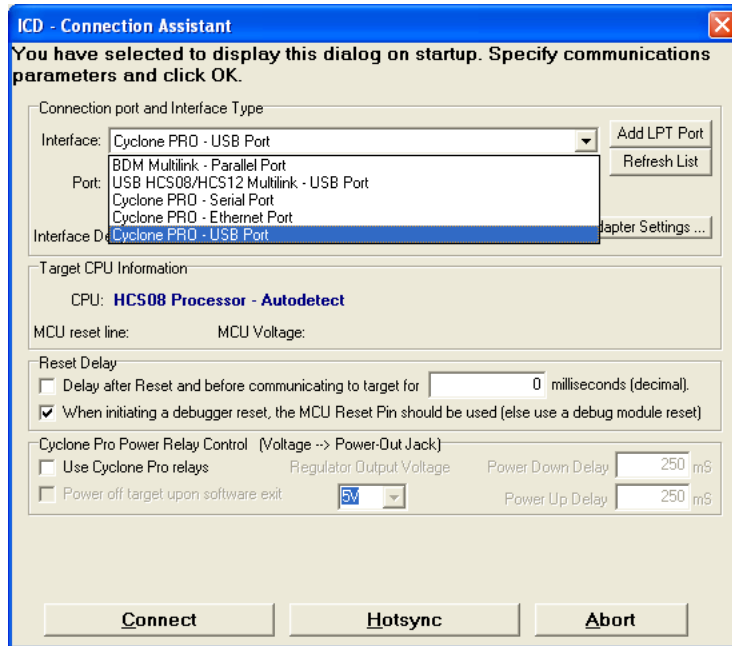
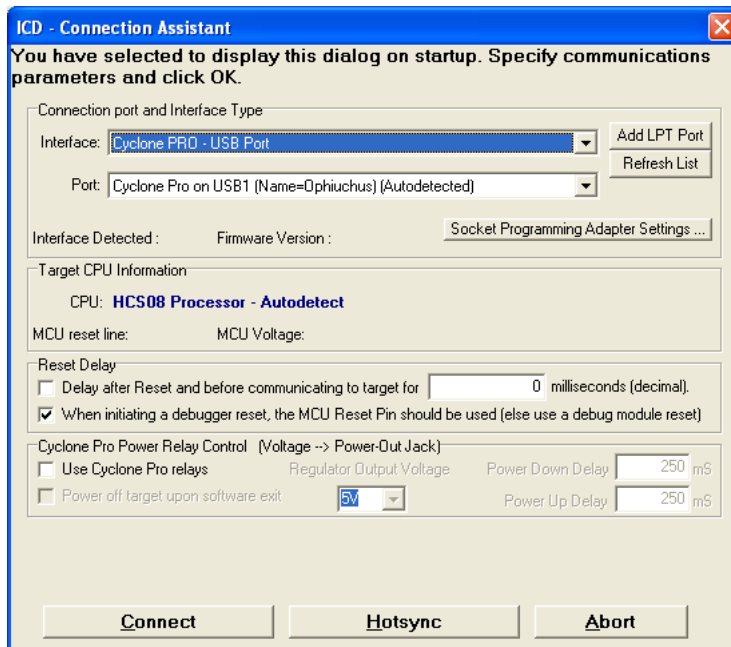

Figure 8-28: HCS08 Connection Assistant Interface Selection
Figure 8-29: HCS08 Connection Assistant Interface Selected
2. Choose the P&E device that you are using from the Interface dropdown menu and click on Refresh. See **Figure 8-28** and **Figure 8-29**.
The “Hotsync” button in the Connection Assistant (see **Figure 8-29**) allows the user to connect to an already running target.